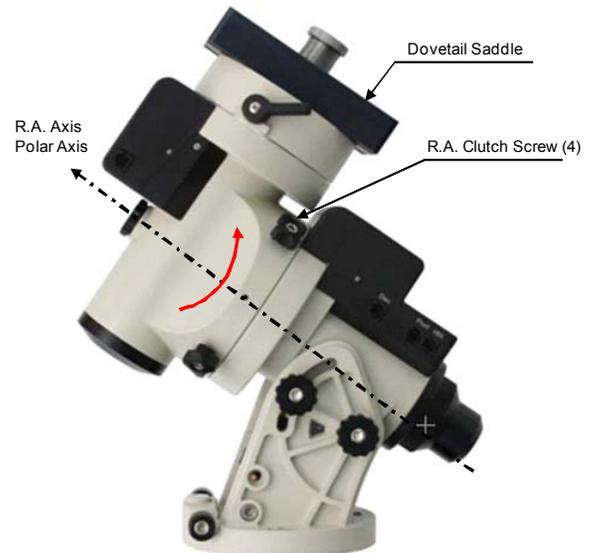
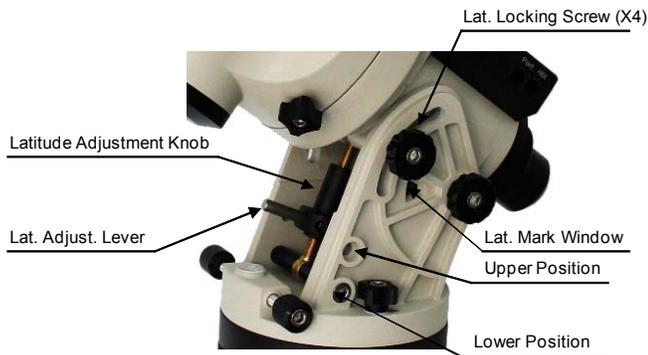

Figure 10
Figure 11
3. **Setting the Latitude:** Unlock the four R.A. Clutch Screws and rotate the mount 180° around the R.A. axis (**Figure 10**) to move the dovetail face upside. Tighten the R.A. Clutch Screws. Un-screw the Latitude Adjustment Lever from Latitude Adjustment Knob (**Figure 11**). Turn the Latitude Adjustment Knob to set your current latitude, which is displayed in Latitude Mark Window. Use the Lever for fine adjustments as needed. Always set the latitude without the load.
If your latitude is between 35° to 70°, set the Latitude Adjustment Knob to the upper position. The factory default position is set at 5° to 40°. A Latitude Safety Block has to be installed for low latitude setting (**Figure 11**)